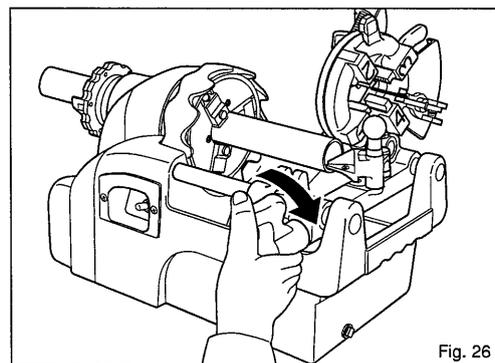

Fig. 26
- (3) Set the switch to the ON position to start the pipe rotating, then use the feed handle to place the reamer against the pipe. When the pipe has made at least one complete revolution, remove the reamer from the pipe. This completes the chamfering process. (Fig. 26)